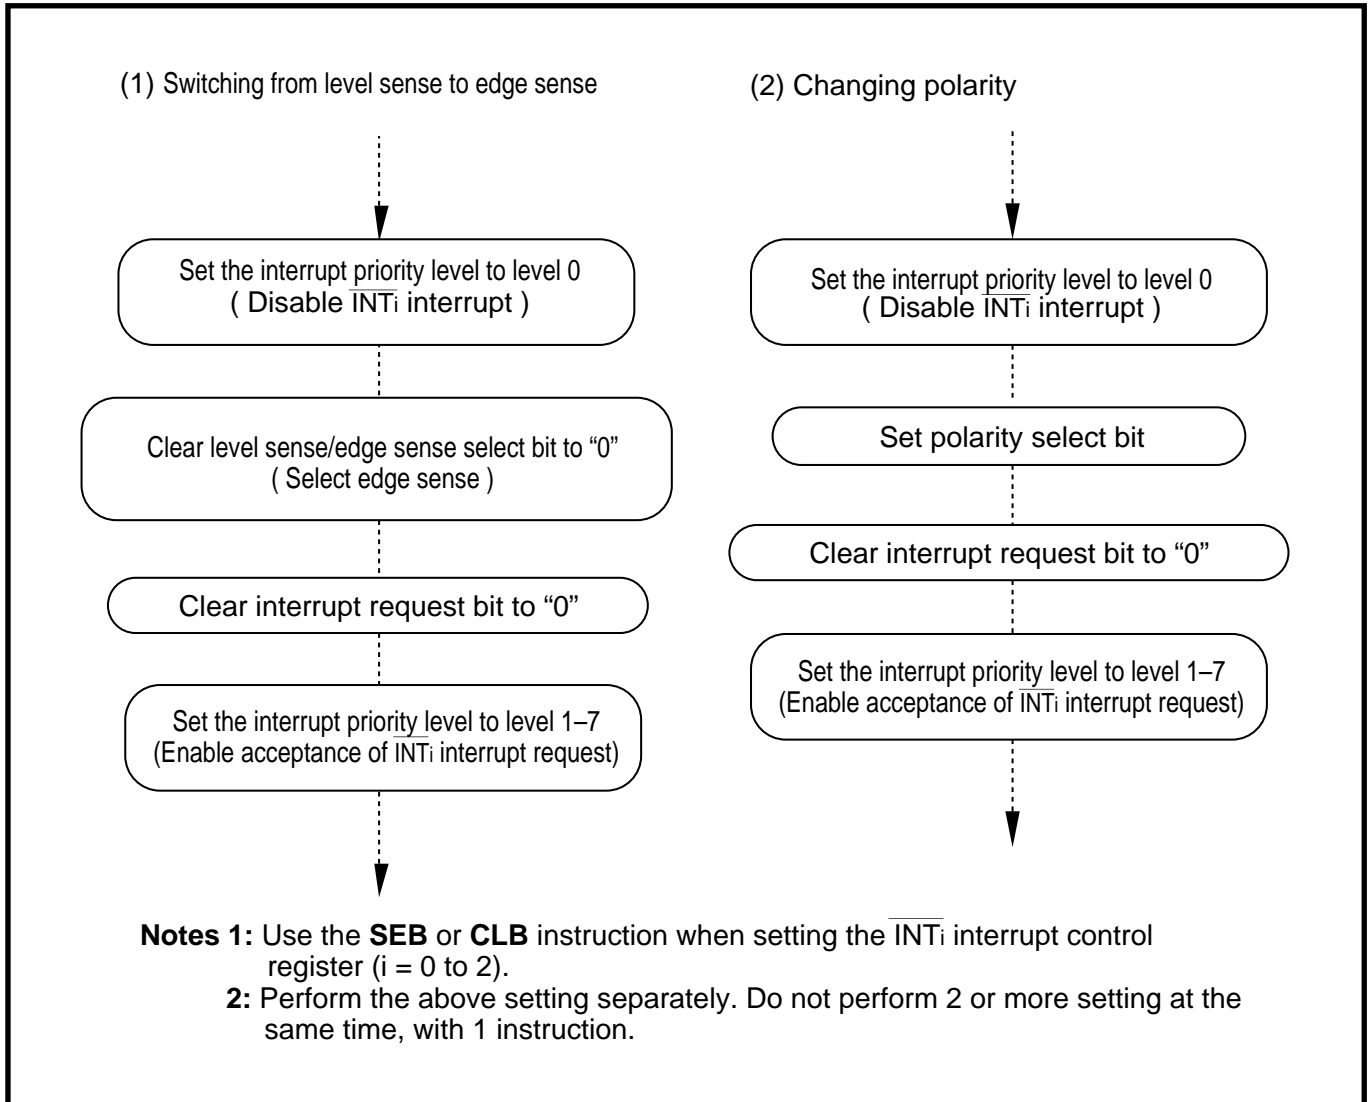

Fig. 4.10.5 Switching flow of occurrence factor of $\overline{\text{INT}}_i$ interrupt request
To switch the occurrence factor of $\overline{\text{INT}}_i$ interrupt request from the level sense to the edge sense, set the $\overline{\text{INT}}_i$ interrupt control register in the sequence shown in Figure 4.10.5 (1). To change the polarity, set the $\overline{\text{INT}}_i$ interrupt control register in the sequence shown in Figure 4.10.5 (2).